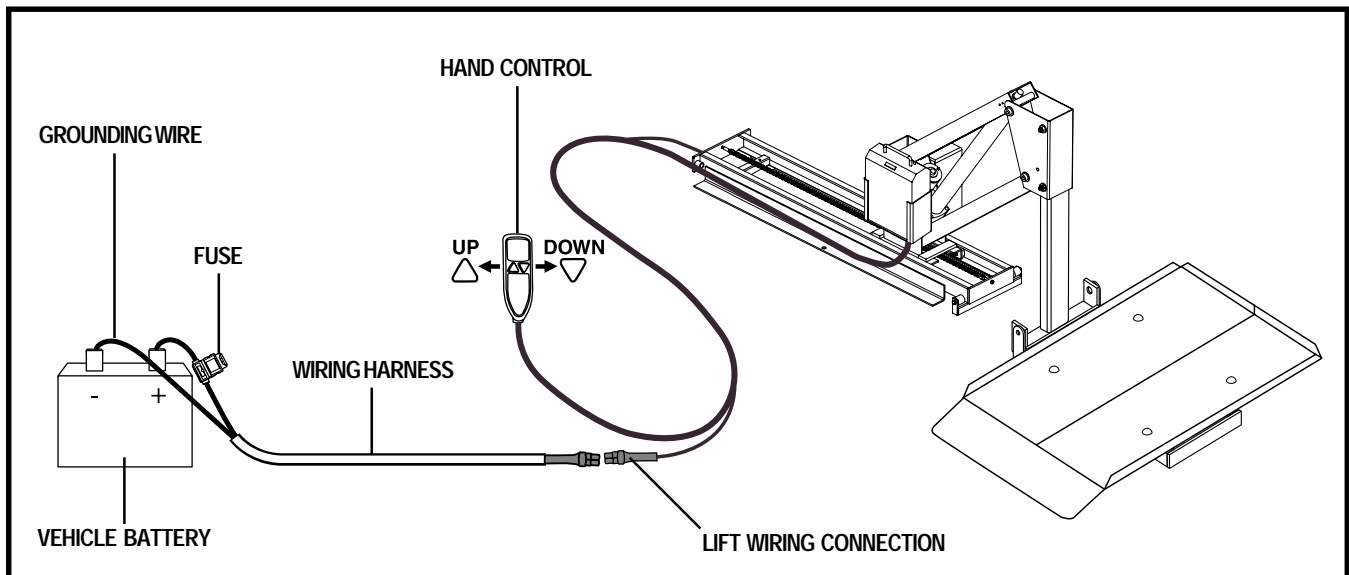

Figure 6. Wiring Harness Installation
1. Route the lift system wiring harness (starting at the lift) through the interior of the vehicle until you reach the vehicle battery. See figure 6.
4. Remove the 30-amp fuse from the wiring harness. See figure 6.